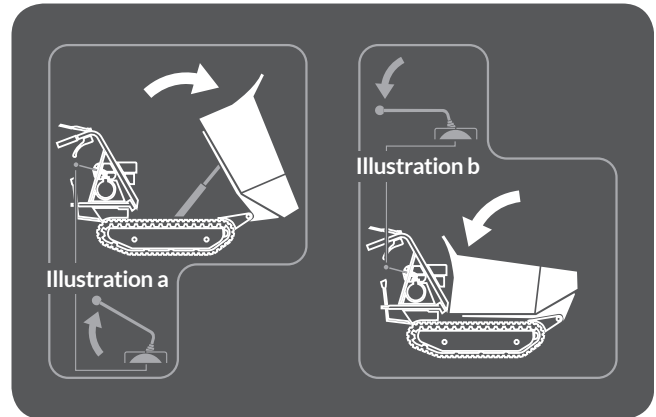

Figure 4
- » To raise the hopper, pull the tipping handle upwards (see **Figure 4, Illustration a**) until the hopper has reached the desired position. To stop raising the hopper, simply release the tipping handle and the tipping handle will return to its original position.
- » To lower the hopper, pull the tipping handle down (see **Figure 4, Illustration b**) with the right hand. When the hopper is lowered to the original position, release the tipping handle back to its original position.